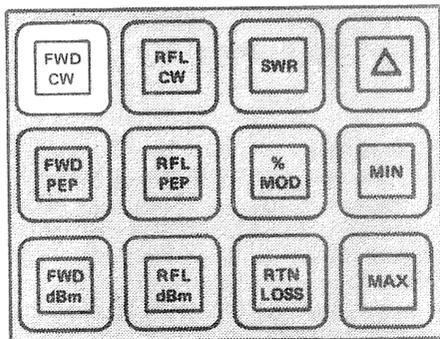

Figure 3-1. Forward Power (CW).
a. Reading Forward Power. (Figure 3-1.) For this measurement only a forward element is required. Install the meter and element according to the preceding paragraphs and move the power switch to **LINE** or **BAT** depending on the power source desired. When powered up, the 4391 always goes into the forward CW power mode. If the unit is already operating, the forward CW power mode is selected by pressing the **FWD CW** key momentarily. If the applied power exceeds 120% of the range, two right facing arrow heads (i.e., "greater-than" symbols) will be displayed. The operation of this error message does not depend on the correct setting of the range switches by the operator, nor will the meter or its elements be damaged if the switches are incorrectly set.